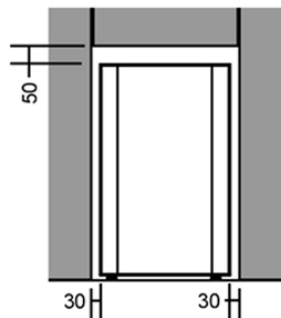

fig. 4
**W32** is only for free-standing, and sufficient free air around the appliance must be ensured. (fig. 4)